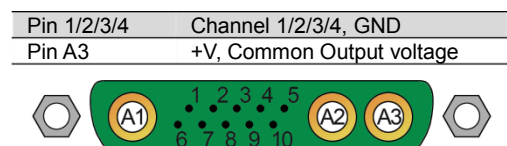

Figure 2: *OUTPUT* connector
**Step 6:** Now, the illumination(s) can be connected to the *Strobe Controller*. Illuminations are connected to the *OUTPUT* connector on the backside of the housing with the pin assignment shown in figure 2. Pin A3 delivers a configurable voltage, while Pins 1 to 4 switch to ground independently for each channel. The number of available channels depends on the used *Strobe Controller* model.